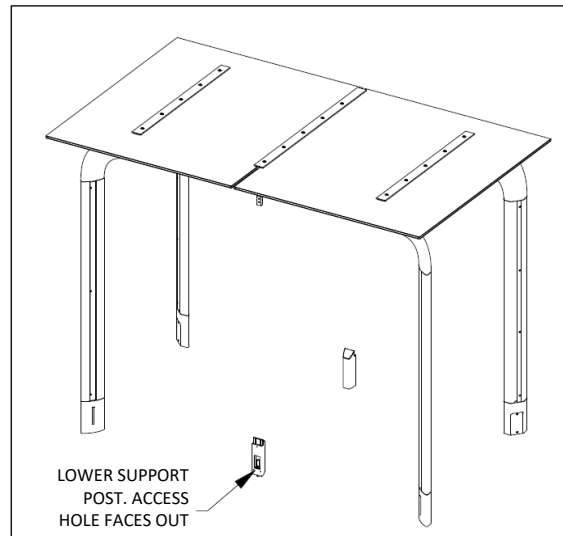

Fig. H1 – lower posts for glass walls
1. Set lower posts in position – note orientation of access hole. See Figs. H1 and H2. Secure with 1/2-13 nut and washer, included in hardware pack #62600. Do not fully tighten.